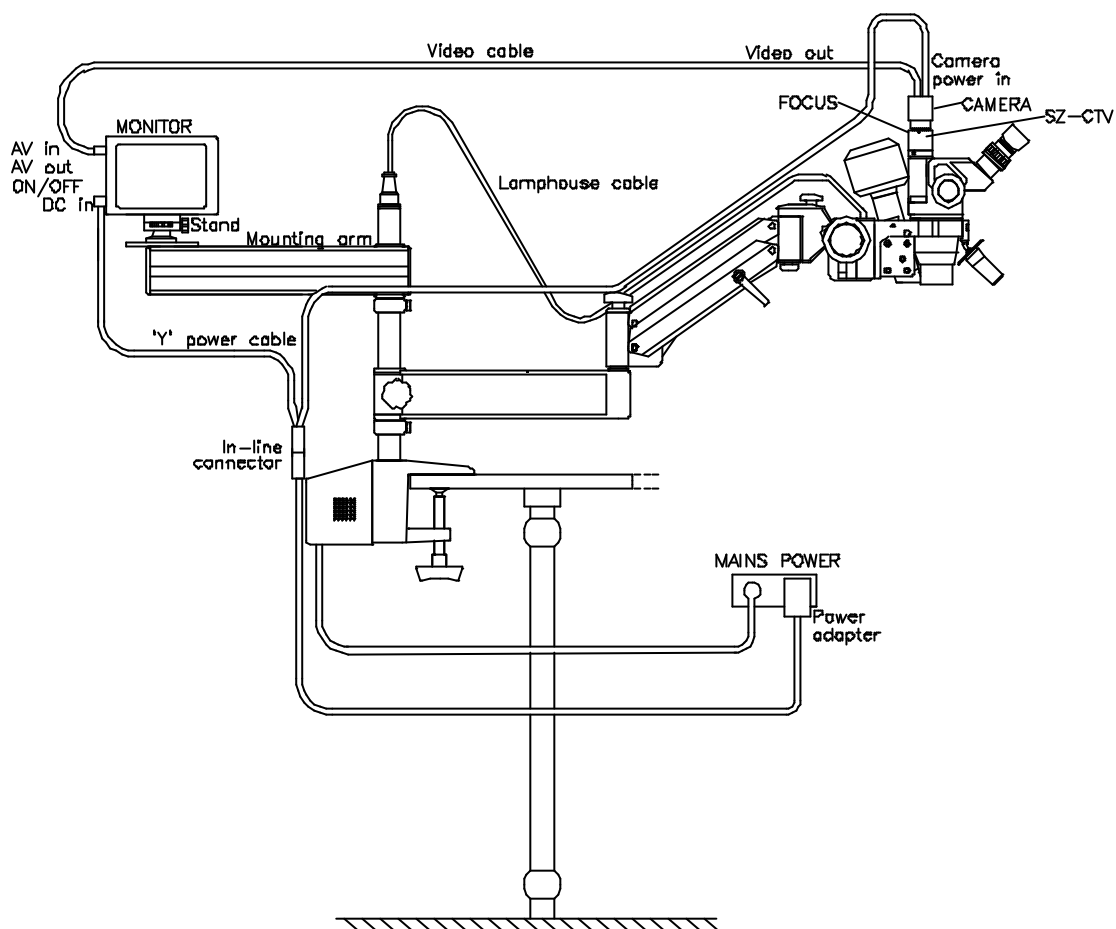

Figure 15 Video System Schematic
8. Attach the 'Y' cable to the power adapter cable using the in-line connectors. Connect the small right-angled power plug to the monitor DC in socket and the large straight power plug to the camera DC in socket. Plug the power adapter in to a mains socket using a mains plug adapter as necessary. Note that the power adapter will automatically detect mains voltages between 100 and 240V, 50-60Hz. Refer to figure 15.
9. Connect the Monitor (AV in) to camera (video out) using the video cable. Switch the moitor on. Refer to figure 15.
13. If the picture on the monitor is unfocussed, adjust focus at rear of the SZ-CTV attachment below the camera. Refer to figure 15.